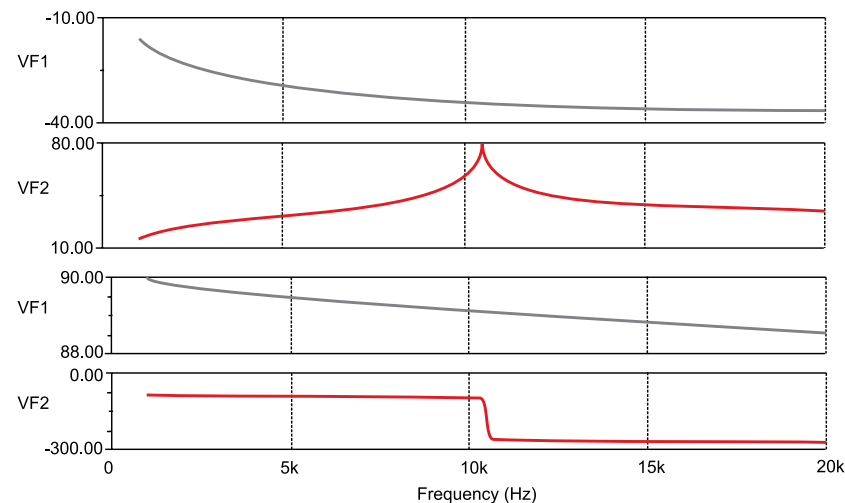

Figure 3.3: Frequency Response of integrator and differentiator
- 3 Frequency Response - Apply a sine wave to the integrator (similarly to the differentiator) and vary the input frequency to obtain phase and magnitude error. Prepare a Table of the form 3.1. Figure 3.3 shows the typical frequency response for integrators and differentiators. For an integrator, the plot shows a phase lag which is proportional to  $\omega/GB$ . The magnitude decreases with increasing frequency. For the differentiator, the phase will change rapidly at natural frequency in direct proportion to quality factor. The magnitude peaks at natural frequency and is directly proportional to the quality factor.